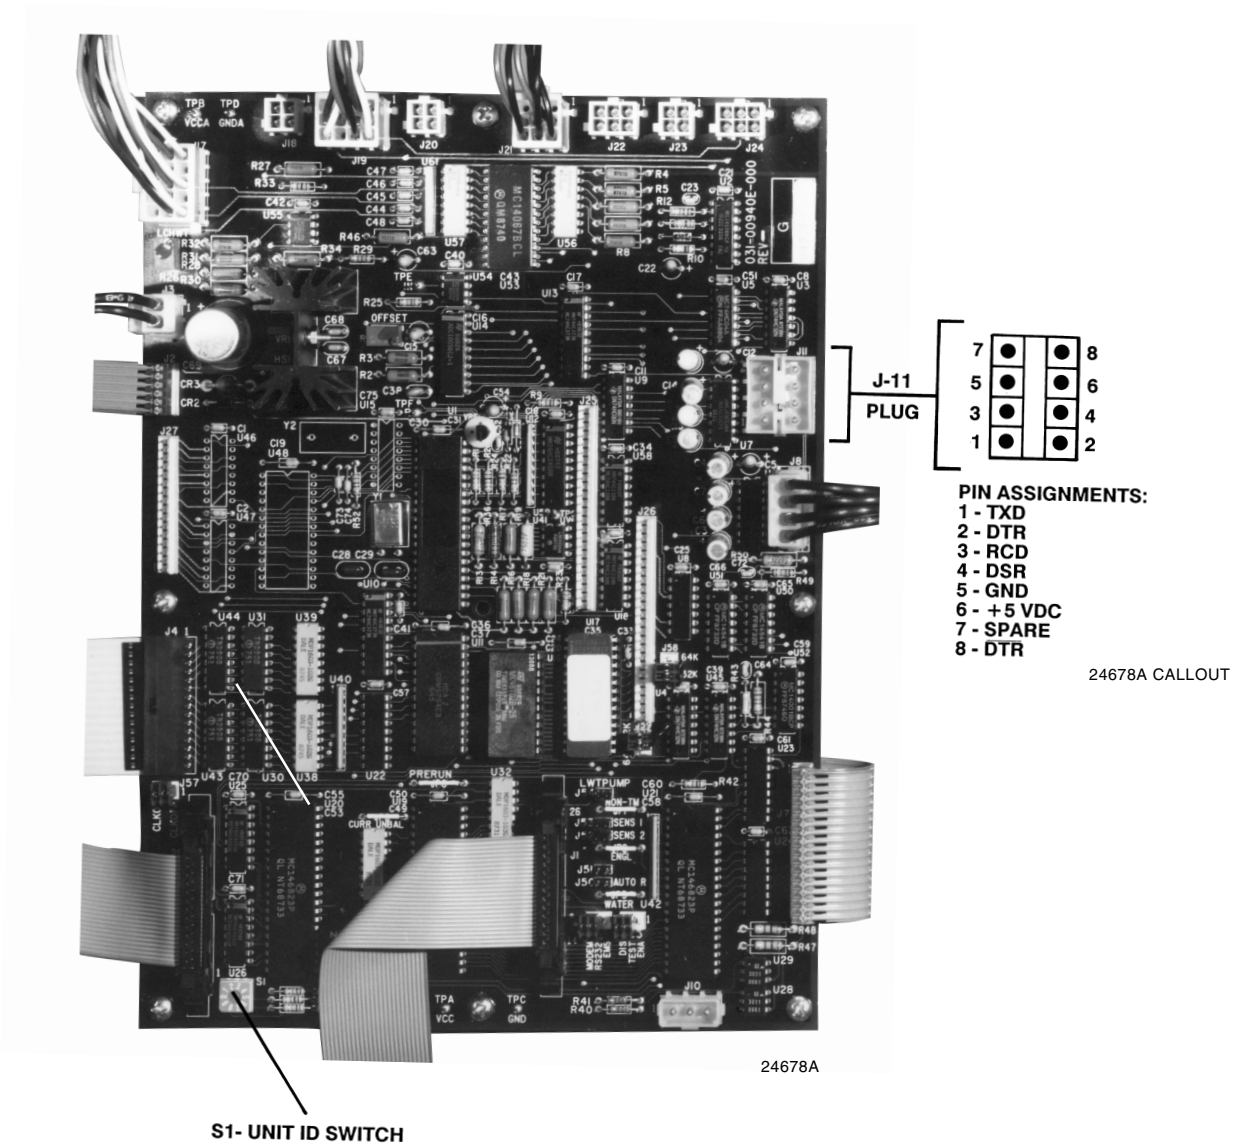

FIG. 3 – MICROBOARD (031-00940-000, -001)
4. If printers are being installed on several chillers at one jobsite, it is advantageous to assign an identification number to each chiller. Refer to Fig. 3 and locate switch S1 on the Microboard. Using a small screwdriver, turn switch S1 to desired number. The selected number will be printed at the top of each printout.